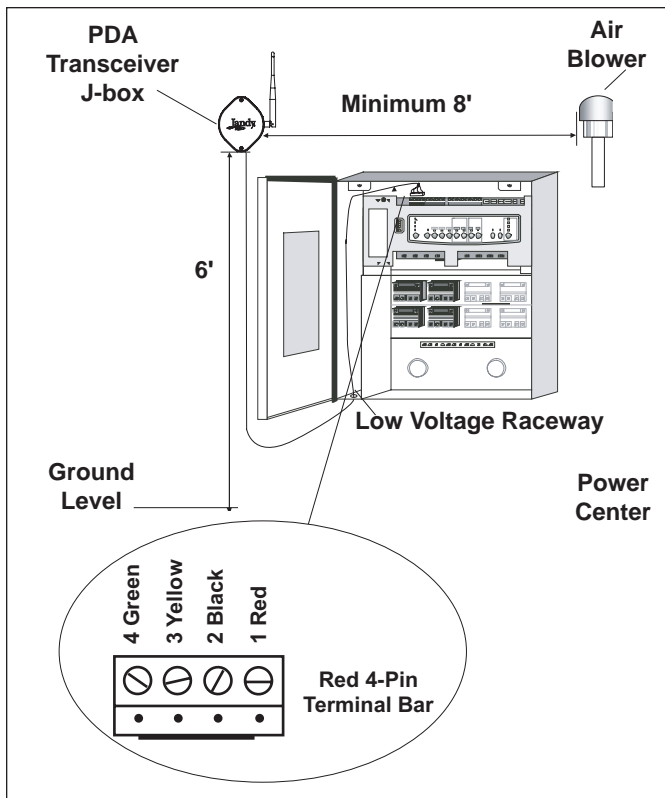

Figure 18. Outdoor Transceiver J-box Installation
2. Mount the Outdoor Transceiver J-box at least 6' above the ground and at least 8' from an air blower (see Figure 18).